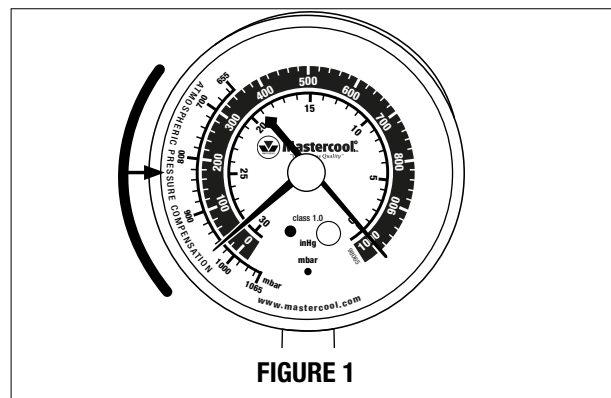

FIGURE 1
b. Find the barometric pressure on the small outer scale (fig 1). That will be absolute zero - the lowest vacuum reading that can be achieved.